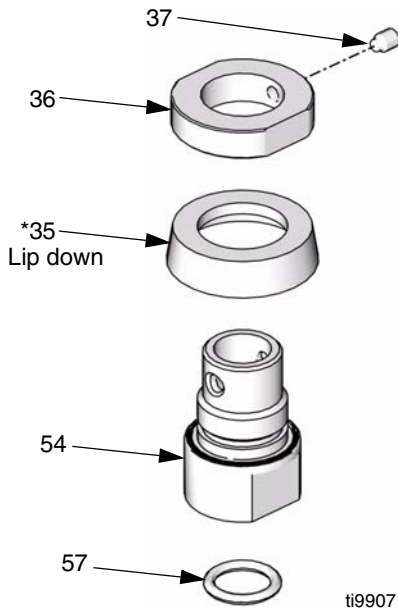

FIG. 22
- Loosen set screw (37) from collar (36). Remove collar from piston housing (54). Remove u-cup (35\*). Remove o-ring (57) from ID of piston housing. Inspect all parts for damage. See FIG. 22.